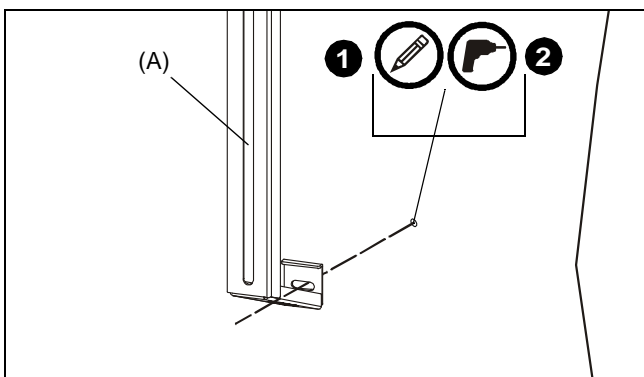

Figure 5
1. Mark the wall through the fixed wall leg (A) on each WBM2 upright. (See Figure 5)
2. Drill a 1/2" hole at each marked location. (See Figure 5)